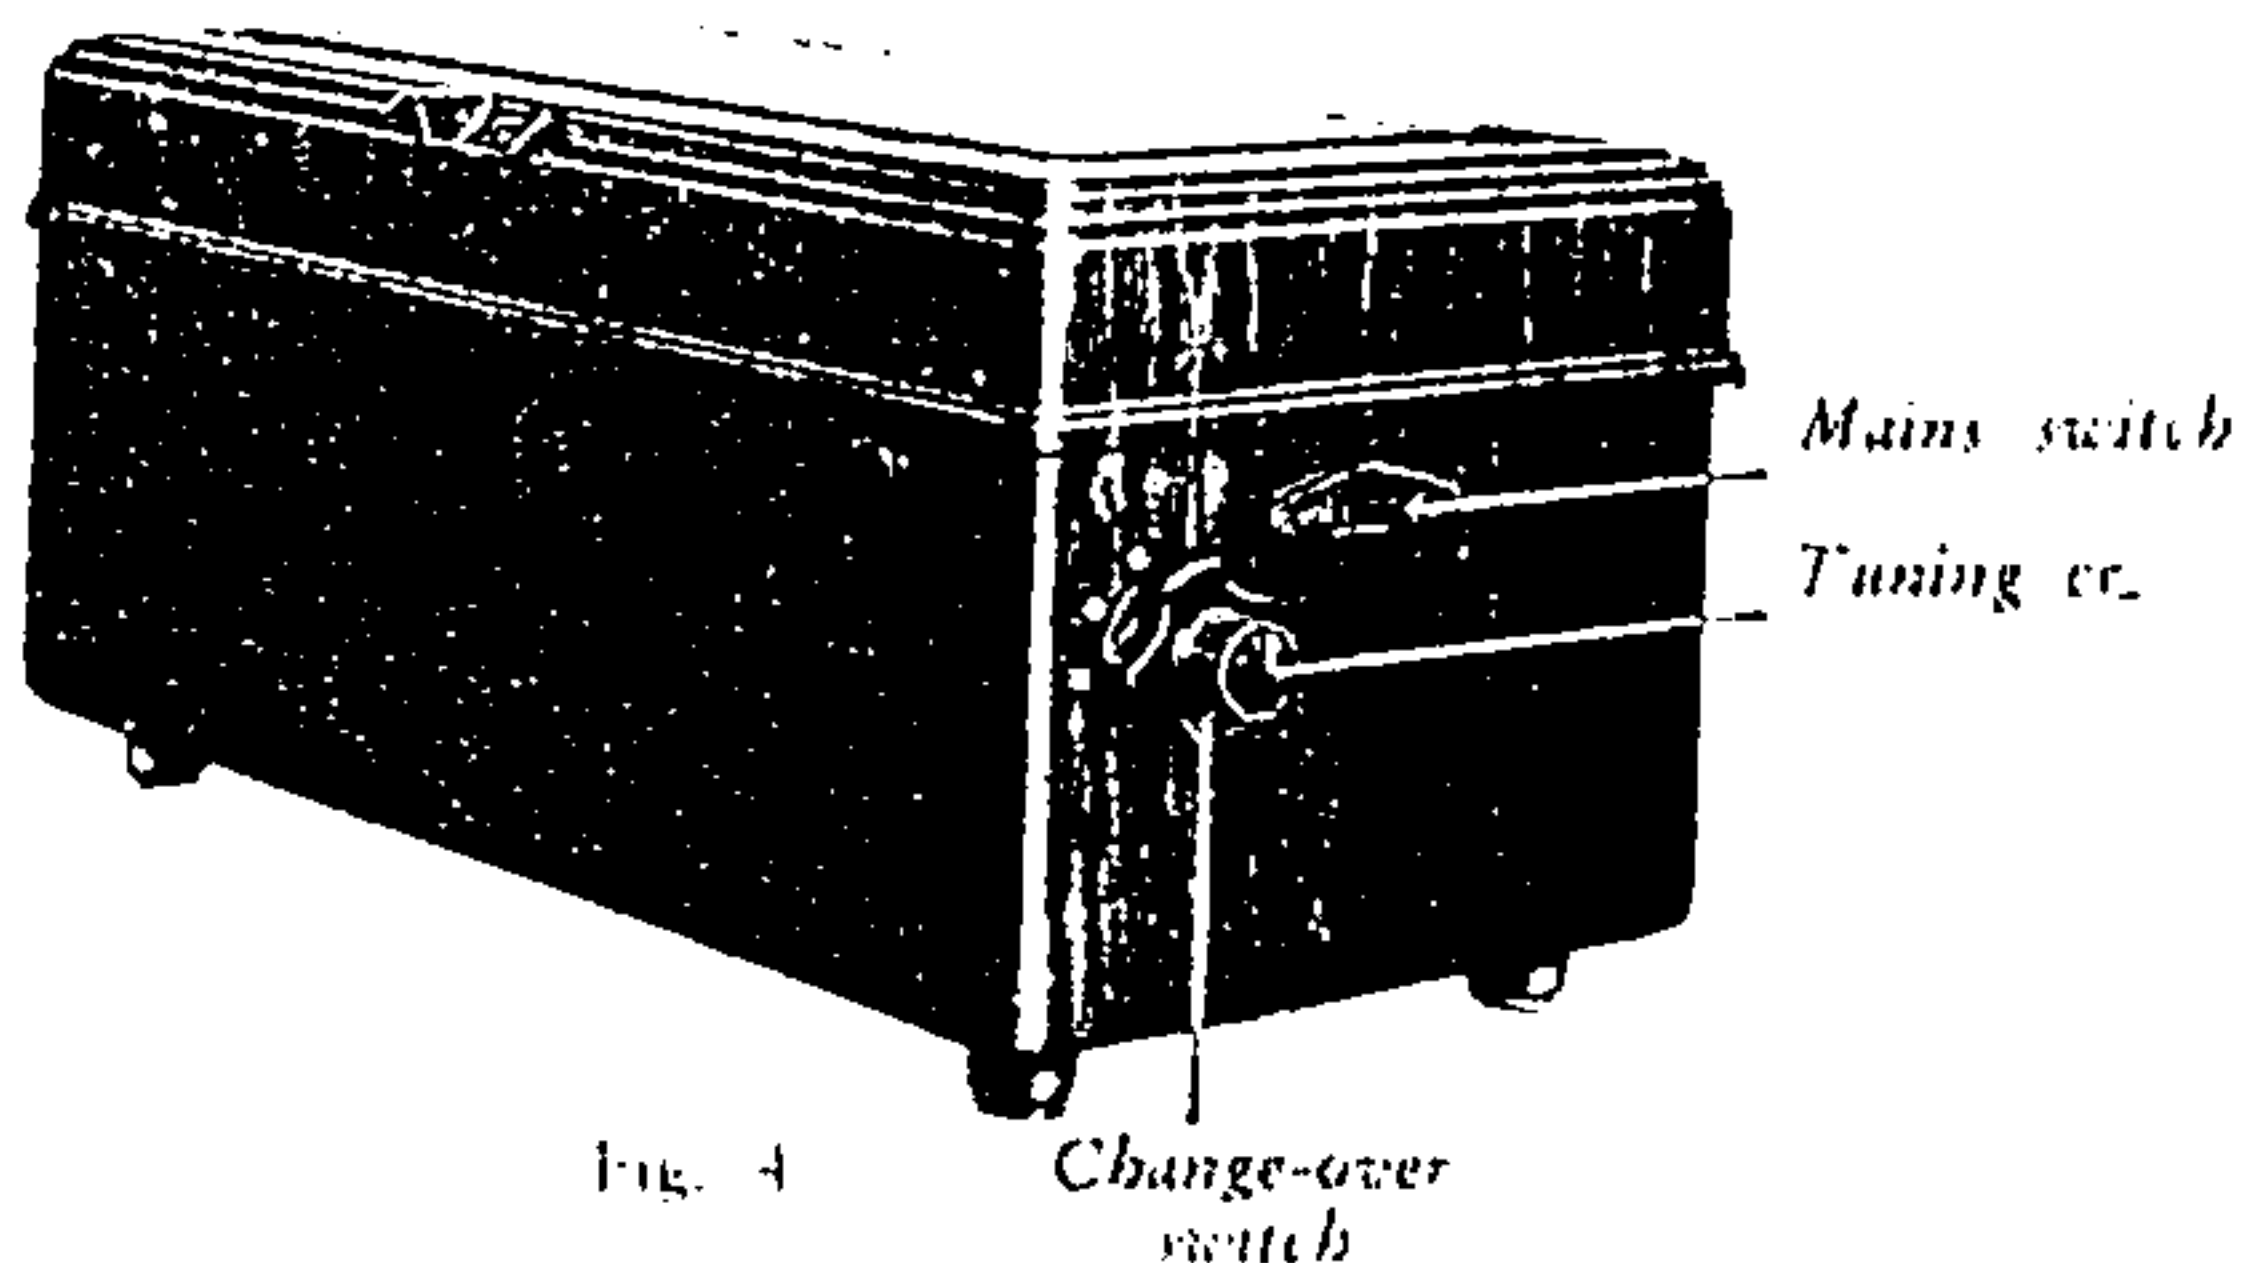
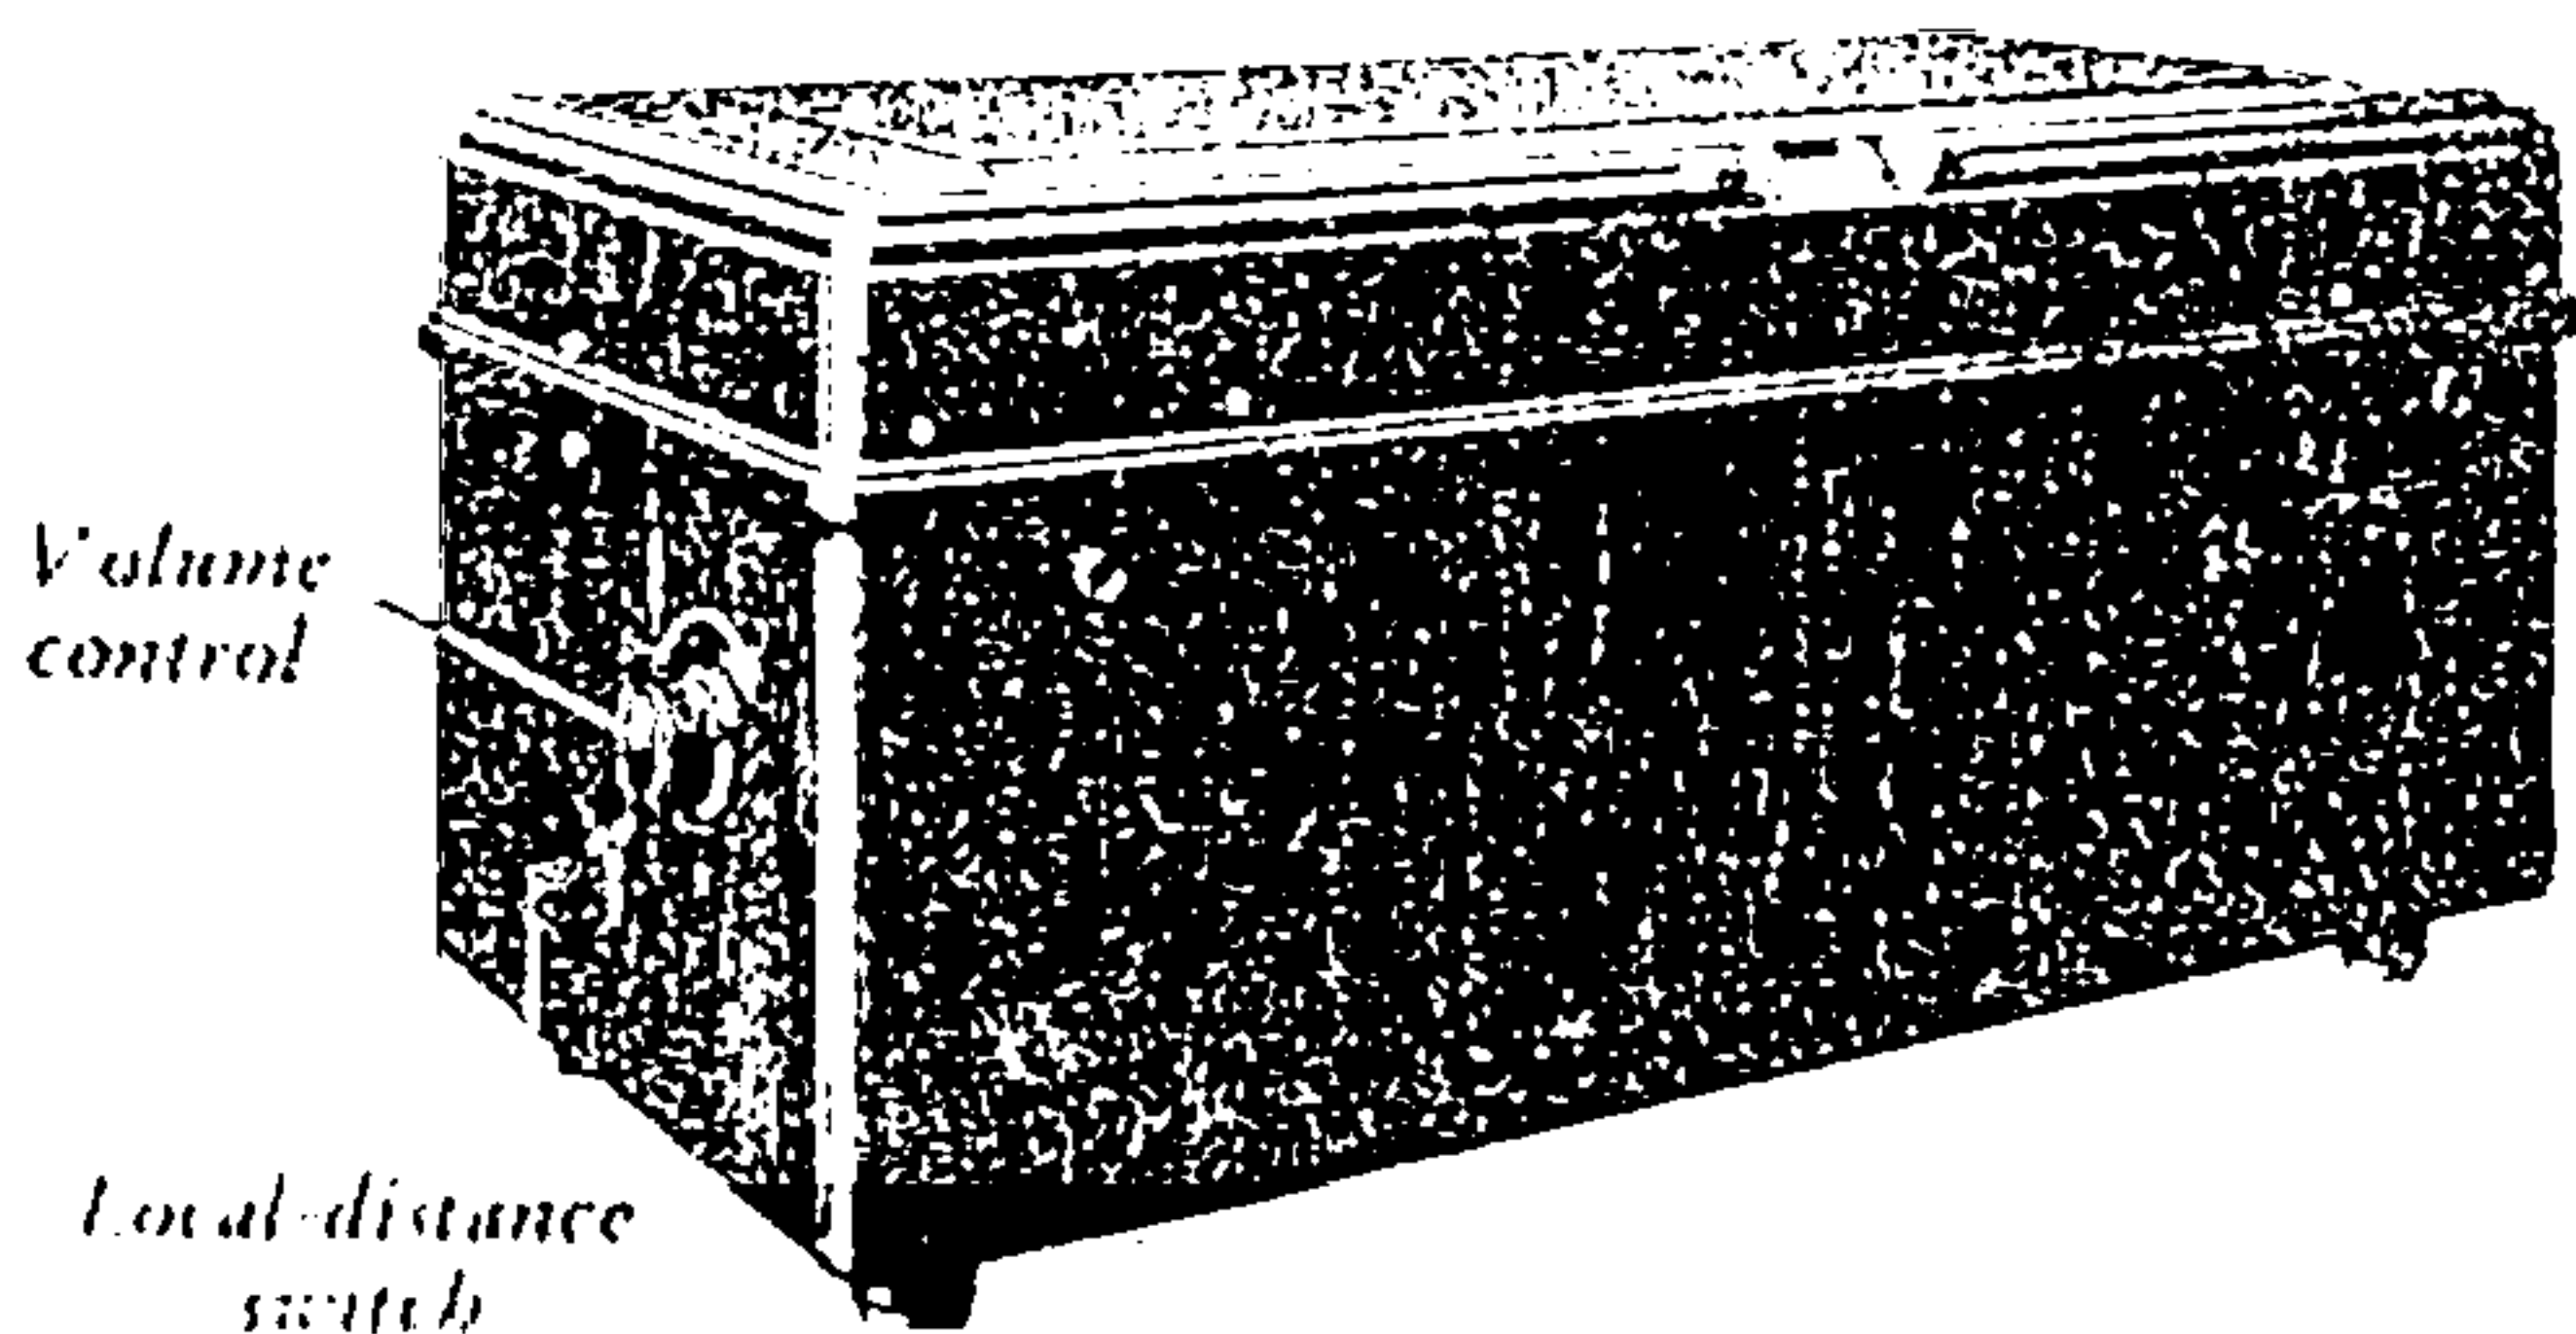

Fig. 4
Fig. 5
When switching on the receiving set for the first time by pushing forward the mains switch (see fig. 4), the following points should be borne in mind:
- 1) Set the change-over switch (see fig. 4) at one of the waveband positions and the local-distance switch (see fig. 5) at position "1". If no reception can be obtained, the two-pin mains plug must be reversed in the wall-socket. The plug has a dash on one side. Once the right position has been found the wall-socket can be marked accordingly, in order that the plug may in future always be correctly inserted. The correct position depends upon the polarity of the supply.
In order to switch on the apparatus, push forward the mains switch (see fig. 4).
Set the change-over switch (see fig. 4); which is mounted on the same axle as the tuning control, at one of the following positions:
The local-distance switch (see fig. 5), when set at position "II", renders it possible to receive a powerful local transmitter without overloading the apparatus. *For reception of more distant transmitters always set this switch at position "I".*
In order to tune in a station, first turn the volume control (fig. 5) as far as it will go in the direction of the arrow and then turn the tuning control (see fig. 4) until a station is received.
First tune in the set once and for all by using the frame aerial as an auxiliary aerial. For this purpose remove the plug marked "2" of the frame from its original socket and insert it in the aerial socket marked "1" (see fig. 5).